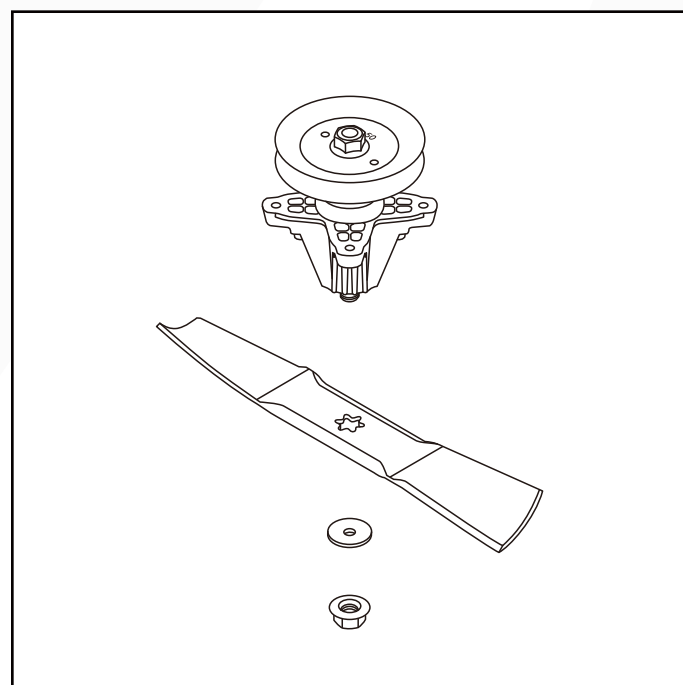

Fig. 28
5. Remove the blade nut, washer and blade. (Fig.28)